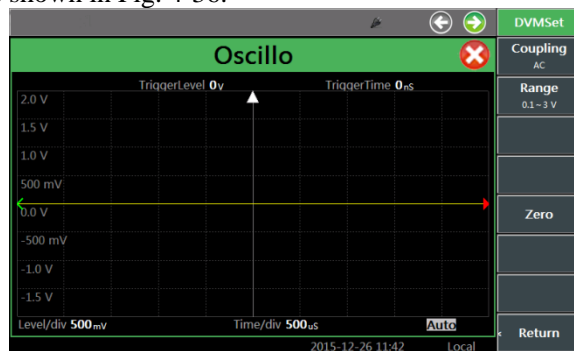

Fig. 4-36 DVM Setting Window
- ✧ Set the DVM port by clicking the [DVM Setting] soft key in the right side of the touch screen for port setting, as shown in Fig. 4-36.